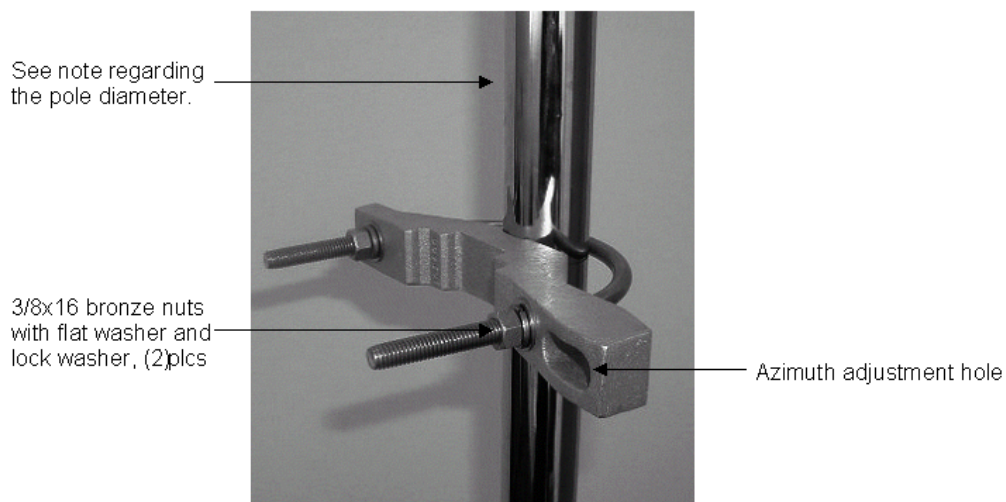

Figure 8-4: Azimuth Adjustment Plate
1. Attach the azimuth adjustment plate (P/N 101488-1) to the mast as shown in Figure 8-4. Use the U-bolt (100441-1), flat washer (WF38.SS-1), split lock washer (WS38.SS-1) and 3/8” x 16 bronze nuts (NH38-16.SB-1).